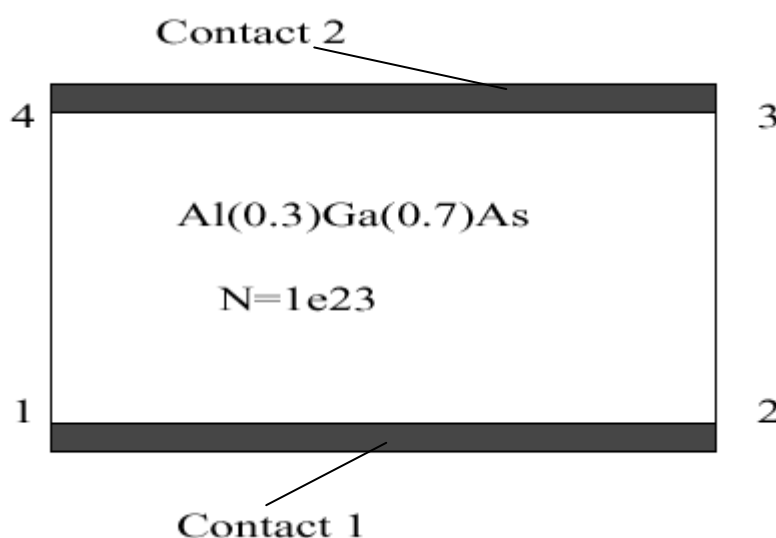

Figure 7.2: Schematic of the simple device structure
This is the simplest example of a structure that consists of one piece of a uniformly doped semiconductor (AlGaAs) with two contacts, one on top and the other one at the bottom (see Figure 7.2: Schematic of the simple device structure). We choose this simple example to illustrate the basic steps of using the GeoEditor so that the user does not get distracted by complicated device structures.
2. Refer to Figure 7.2 and left-click points 1, 2 and 3, in that order. A property dialogue sheet (or property Dialogue) should pop up immediately after this step.